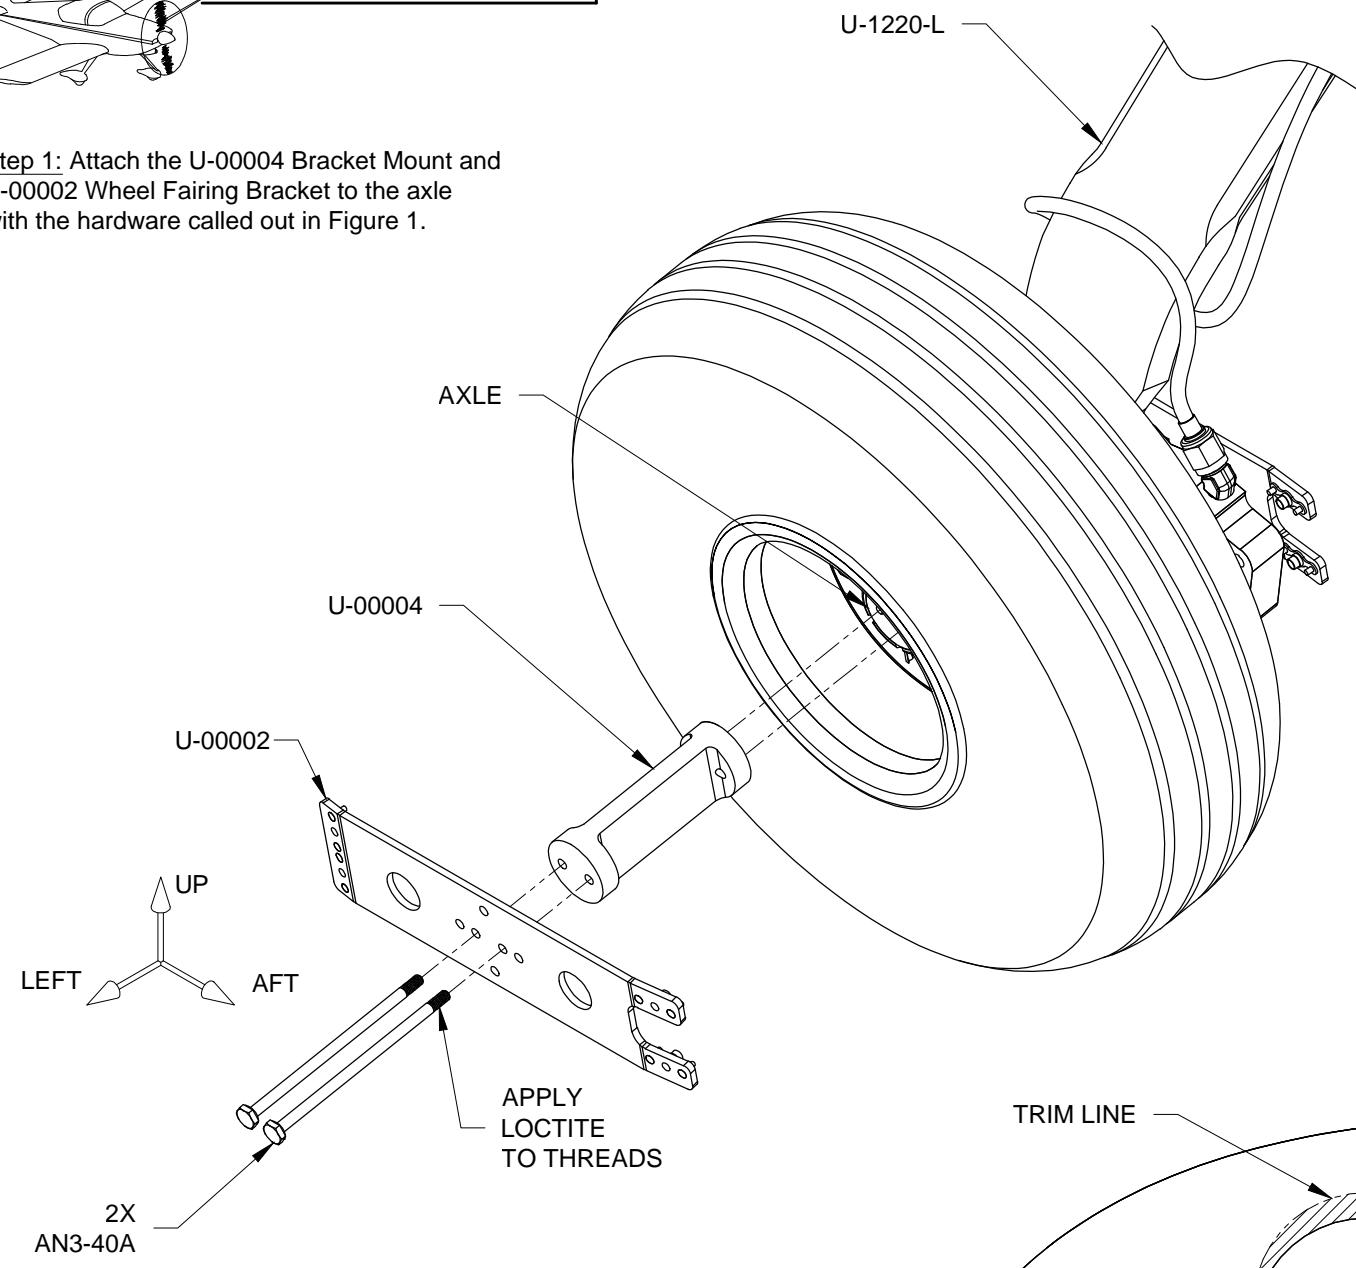

FIGURE 1:
Step 1: Attach the U-00004 Bracket Mount and U-00002 Wheel Fairing Bracket to the axle with the hardware called out in Figure 1.